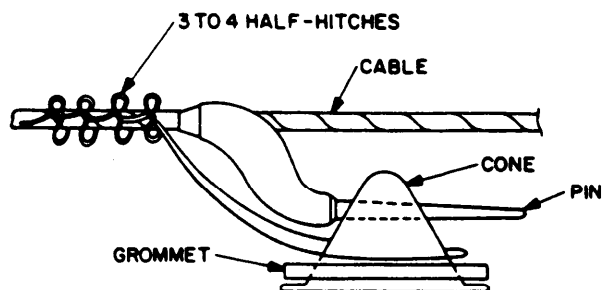

Figure 6-4.—Safety tying ripcord.
10. (Install the ripcord and safety tie the first and last ripcord pins by passing a 12-inch length of size E nylon thread under the ripcord pin). Secure the thread to the ripcord cable with three or four half-hitches (fig. 6-4).